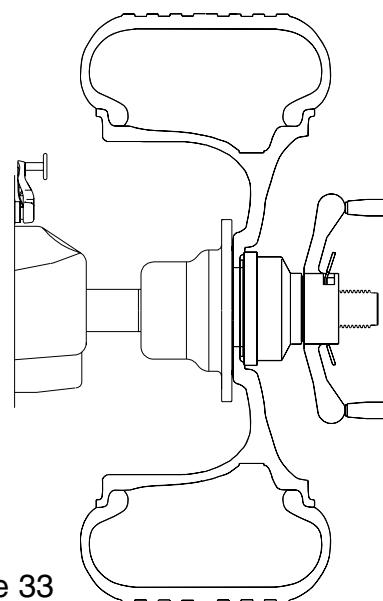

Figure 33
- Mount a balanced wheel/tire to the shaft. See Fig 33.